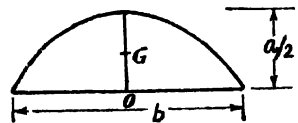

Fig. 4'35
12. Segment of a Circle. (Fig. 4'36)